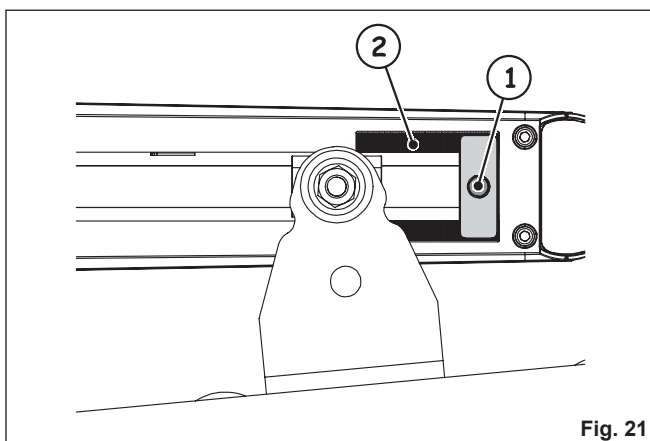

Fig. 21
3. Loosen the securing screw, Figure 21 Ref. 1. The screw does not need to be completely removed.
The mechanical stop is coupled to a toothed sector, Figure 21 Ref. 2.